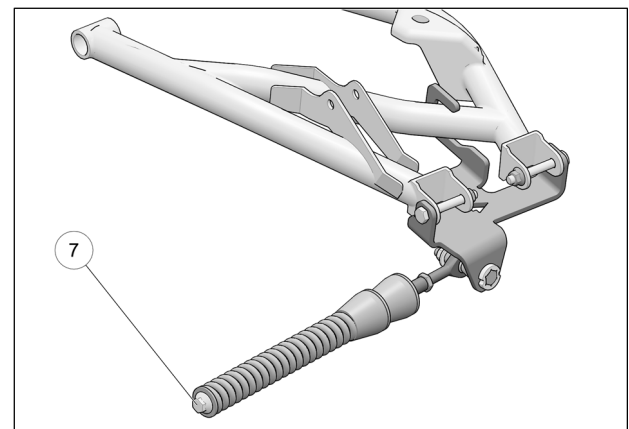

Fig. 12
- Verify that spring assembly bolt (**7**) is tightened to the recommended torque specification: 75 N•m [55 lb•ft]. Refer to Fig. 12